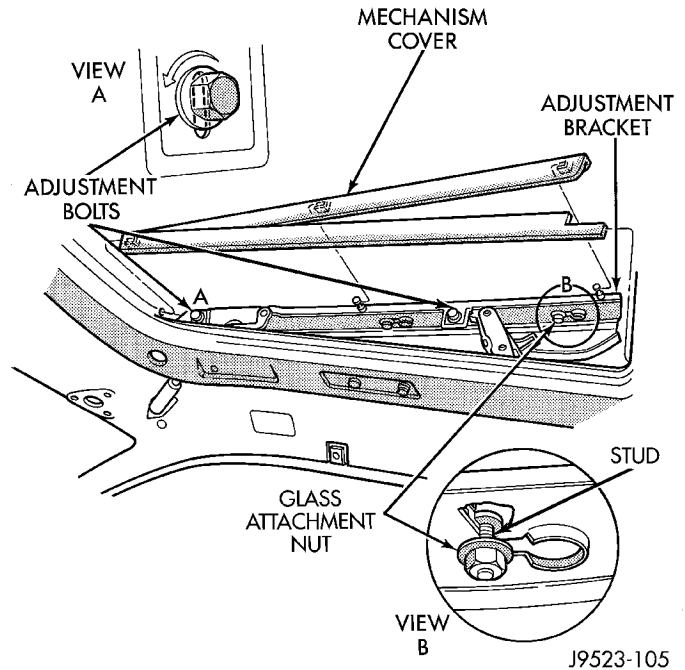

Fig. 13 Glass Adjustment
- (1) Open glass to vent position.
- (2) Slide upper half of mechanism covers rearward until clips disengage and separate covers from vehicle (Fig. 13).
- (3) Close glass panel. Separately loosen adjusting bolts shown in View A (Fig. 13) and individually adjust the corners of the glass.
- (4) Adjust front of glass panel to 1.0 mm (0.040 in.) below top surface of roof panel.
- (5) Adjust rear of glass to 1.0 mm (0.040 in.) above top surface of roof panel.
- (6) Tighten adjustment bolts and install covers.